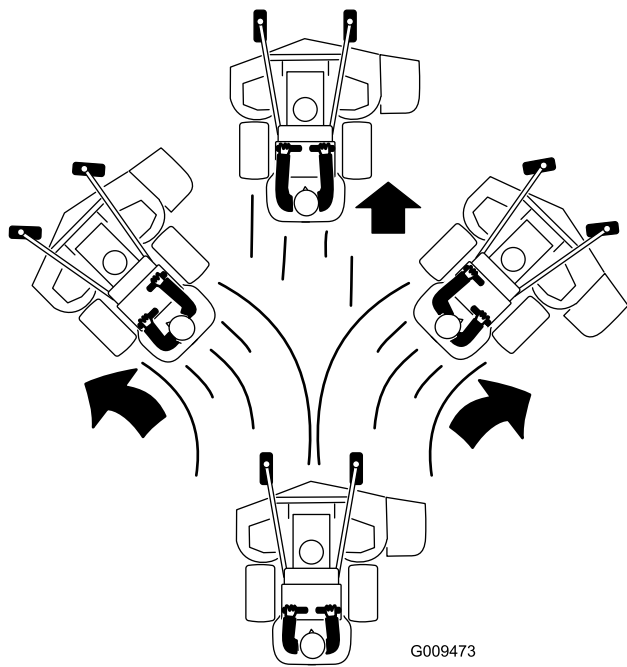

Figure 20
4. Slowly push the motion control levers forward (Figure 20).